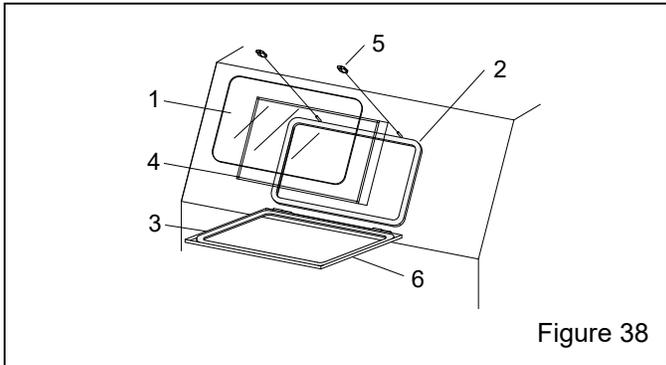

Figure 38
9.5 View-Window Assembly – Figure 38